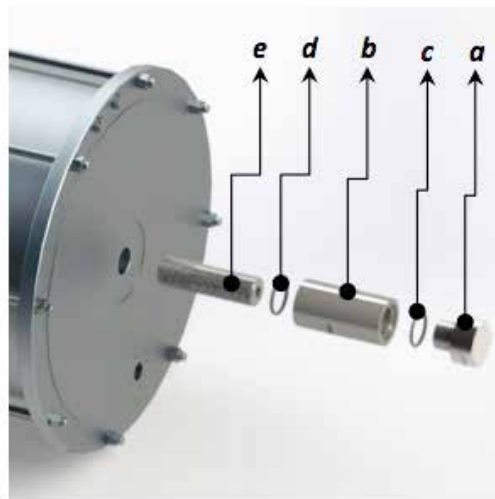

Figure 14a: Enclosed Stopper Exploded View
2.3.3 Pneumatic cylinder travel-stop bolt adjustment (version with enclosed stopper bolt protection) Refer to figure 14a for next instructions and descriptions